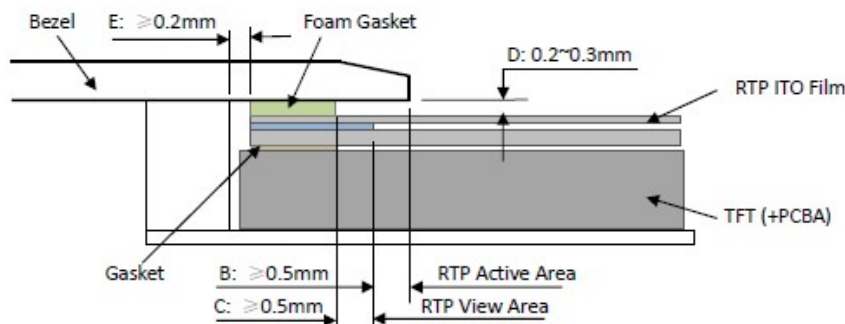

Figure 4
- It should bezel touching the RTP Active Area (A.A.) to prevent abnormal touch.It should left gab D=0.2~0.3mm in between. (Figure 4)
- Outer bezel design should take care about the area outside the A.A. Those areas contain circuit wires which is having different thickness. Touching those areas could de-form the ITO film. As a result bezel the ITO film be damaged and shorten its lifetime. It is suggested to protect those areas with gasket (between the bezel and RTP).The suggested figures are  $B \geq 0.50\text{mm}$ ;  $C \geq 0.50\text{mm}$ . (Figure 4)
- The bezel side wall should keep space E= 0.2 ~ 0.3mm from the RTP. (Figure 4)
- 为避免面框直接压在动作区 (A. A.) 上造成误动作，面框与电阻触摸屏 (RTP) 之间应留有一定的空隙  $D=0.2 \sim 0.3\text{mm}$  之间. (附图 4)
- 设计面框时，要注意用面框保护触摸屏四周的非保证操作区域，因为布线区域在此处形成一台阶，在此区域附近操作时 ITO Film 变形较大，容易导致 ITO 损坏而降低寿命。为保护 RTP 和避免误操作，在 RTP 与面框之间垫缓冲物 (Gasket)，我们建议设计面框应覆盖动作区的边缘，面框边缘到 V. A. 区的距离  $B \geq 0.50\text{mm}$ ；垫圈内边缘到 V. A. 区的距离  $C \geq 0.50\text{mm}$ 。（附图 4）
- 在设计面框与 RTP 组装时，应考虑到面框内侧与 RTP 外侧的间距  $E \geq 0.2\text{mm}$ 。（附图 4）